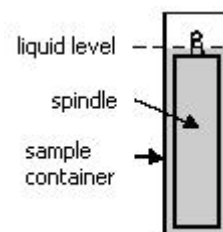

Fig. 10: Full LCP adapter.
- Insert the sample container (K) by turning it gently. Fit the spindle together with the lower stopper (M).
- Check the level of the sample. It should be approximately in the middle of the cone, which is connected to the spindle connector(H). Figure 10 shows more information about this
- Place the upper stopper (N) over the sample container.